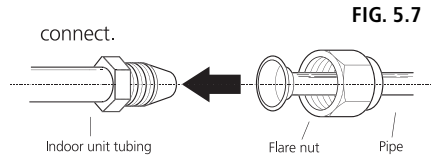

FIG. 5.7
- Align the center of the two pipes that you will connect (See FIG. 5.7).